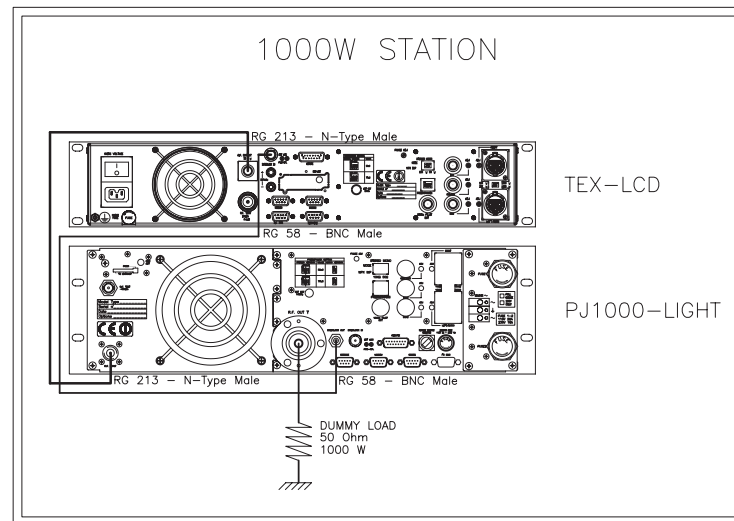

Figure 5.1: **Connections with exciter**
**The control and RF connection diagram, between the amplifier and its exciter, and the connection with the load are represented in figure 5.1.**